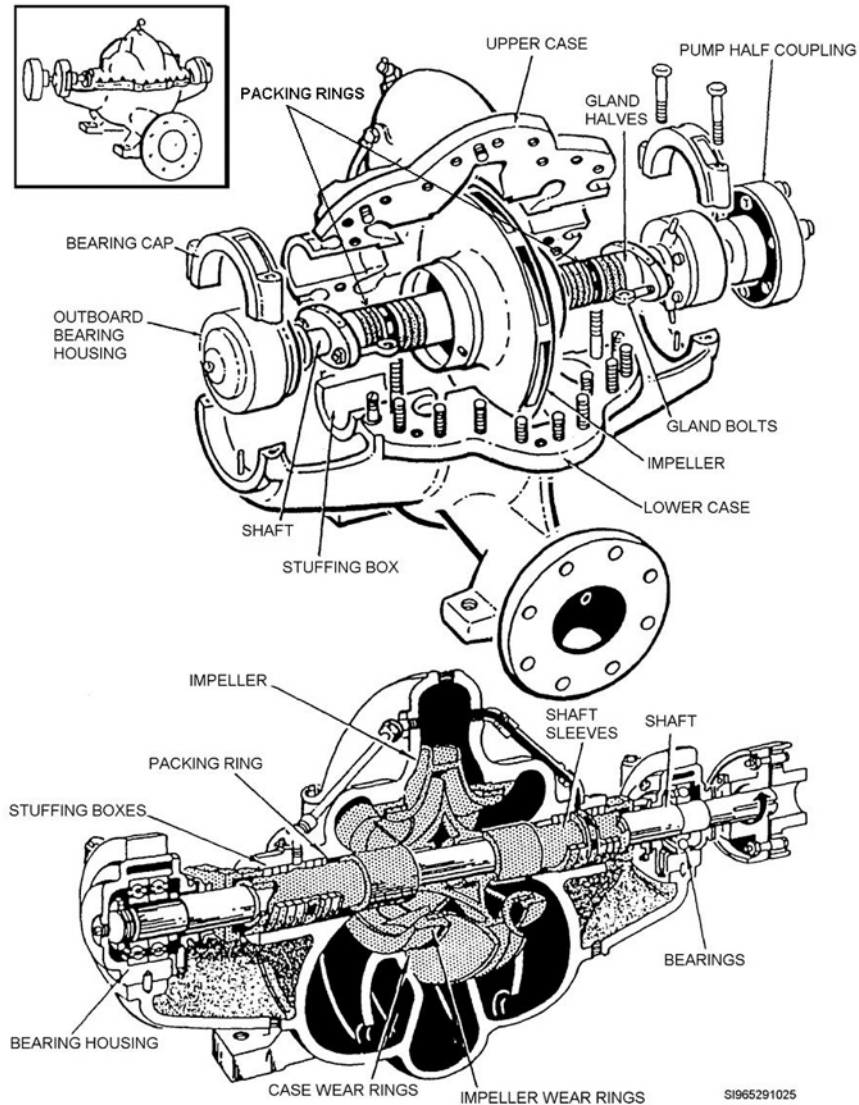

Figure 3-12. Peerless centrifugal pump.
Several designs of the Peerless centrifugal pump are in current use. Many of them vary only in such things as shaft seals (packing rings or mechanical seal), drive, and bearing arrangements. Two configurations are used in our systems: (1) the *single-suction impeller* and (2) the *double-suction impeller*. This simply means that product is pulled into the center of the impeller either only from one side or from both sides. An impeller of the same diameter can move more product per minute with a double-suction impeller. A Peerless double-suction pump is shown in figure 3-12. Note that the impeller is closed and has an entry from each side. This pump also has a higher suction lift than a single-suction impeller pump.
Study the top picture in figure 3-12 for a moment, paying attention to the center shaft on both sides of the impeller. The pressure on the packing rings in the stuffing box is controlled or adjusted by the gland bolts and nuts. Packing leaks are stopped by tightening the gland bolt nuts. The bolt heads are set on pins that will keep them from turning and repositioning. If you draw up the gland bolt nuts you will compress the packing by pulling the gland halves toward the impeller. The nuts are exposed when the pump is fully assembled.